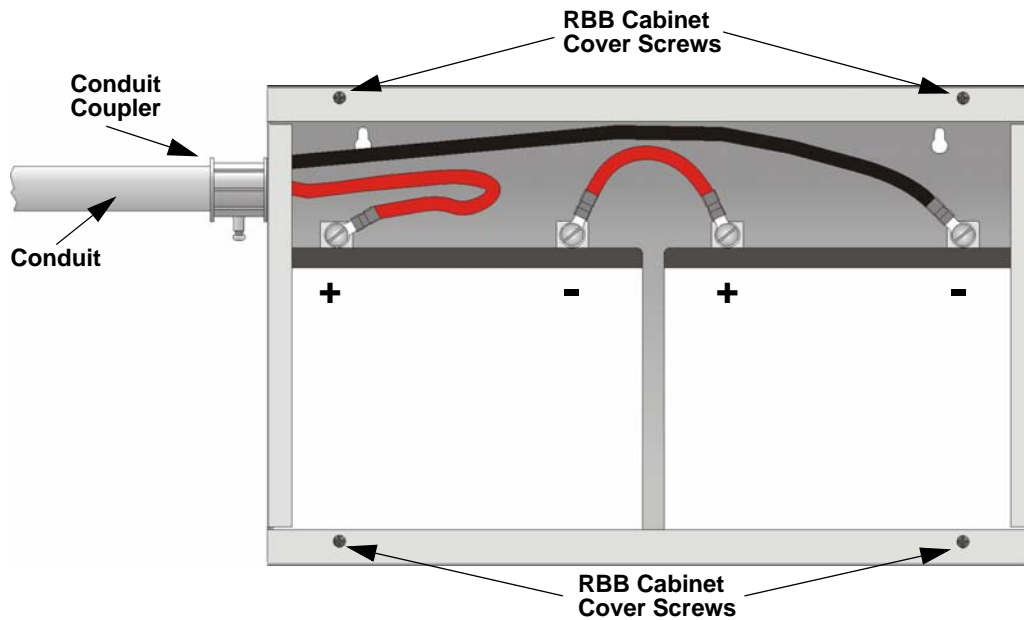

Figure 4-6 Battery Connections in the RBB Cabinet
- Run extended battery cable from control panel cabinet through conduit to RBB cabinet. See Figure 4-6.
Note: Figure 4-6 is an example of how the wire connections can be routed. However, any other cabinet knock-outs (on either the main control panel or the RBB cabinet), that are not previously being used may be utilized to connect conduit between the two cabinets.
- Connect battery leads to the backup battery terminals. See Figure 4-6.
- Insert the RBB cover screws into the cover mounting holes (see Figure 4-6).